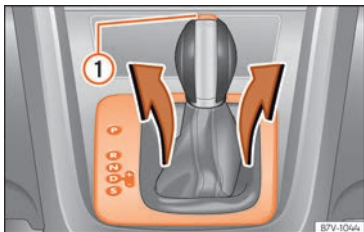

Fig. 52 Remove the lining from the area of the gear indication
- Pull the cover up around the dust guard on the gear selector lever »» **Fig. 52**.
- Press the lock button »» **Fig. 52** **①** on the gear selector lever knob and place the gear selector lever in the **N** position.